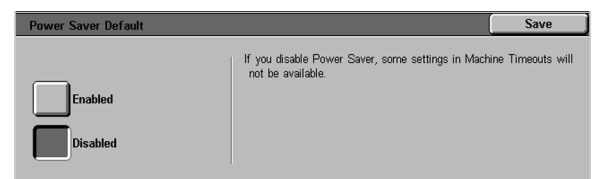

Figure 40: Power Saver Default screen
- On the Power Saver Default screen (Figure 40), touch either the Enabled or Disabled button.